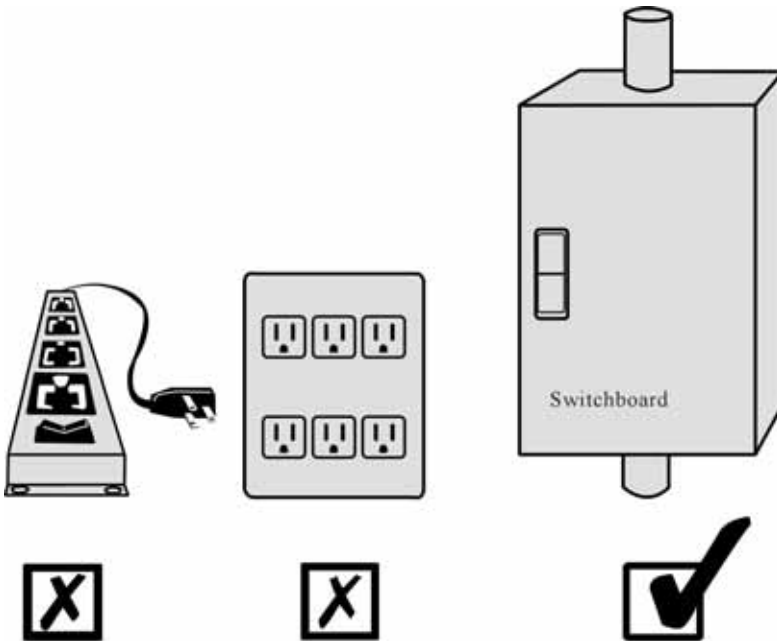

Figure 11
2. Please connect UPS input terminal to utility power in nearby switchboard. Figure 11.